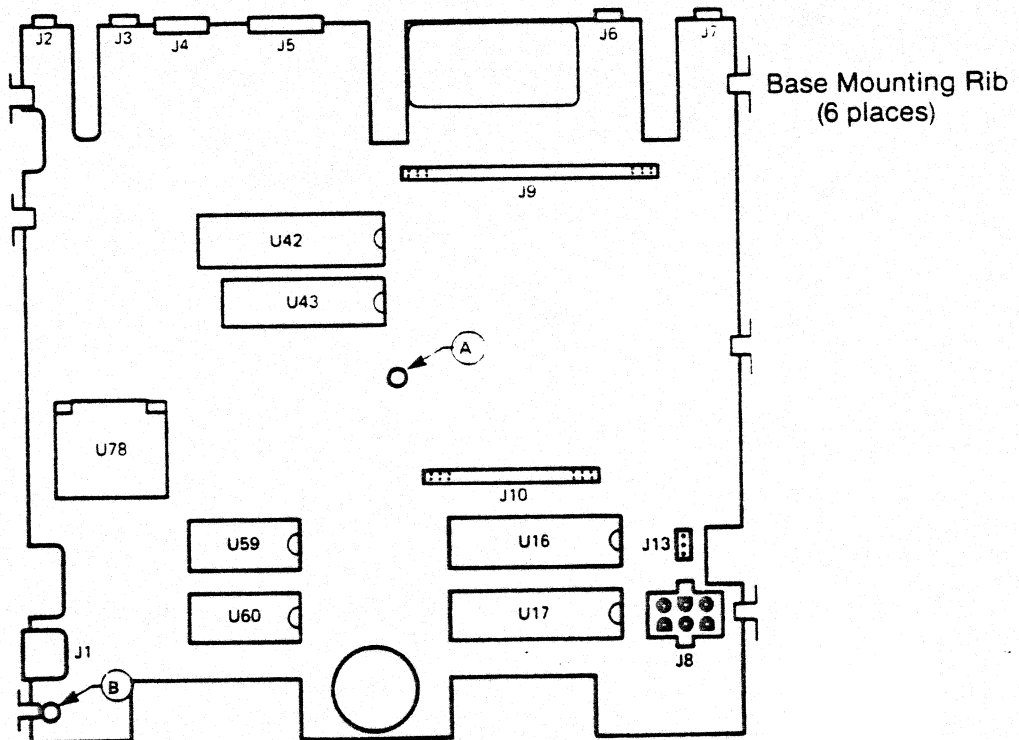

Figure 5-3. System Unit Socketed Chip Locations
6. Gently lift the ZIF PCA until it separates from J10 (see figure 5-3 for location of J10).
2. Refer to figure 5-3 to locate U78 on the System Unit PCA.
2. Refer to figure 5-3 to locate socketed chips in the System Unit or to 5-4 for the Expansion Unit.
- (A)  X1 6-32x 3/8 Machine Screw
- (B)  X1 6-19x 1/4 Thread Forming